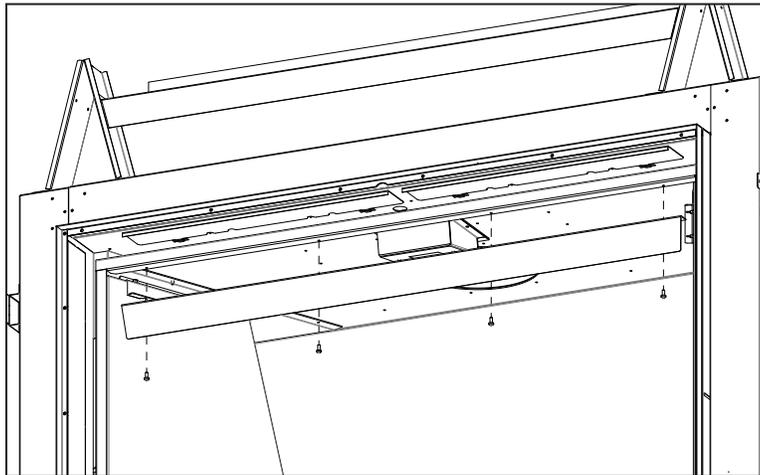

Figure 73: Light Deflector Removal
**Step 2.** Remove light deflector by removing the four (4) retaining T-20 screws (see Figure 73).